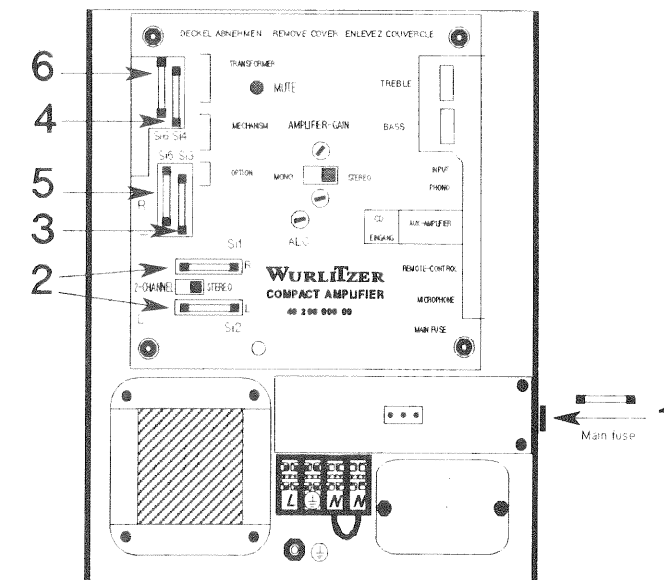

Fig. 37
01. Main fuse T 3, 15 (Fig. 37, 1) At 110/117 V-supply F6,3 A.	No illumination, phonograph completely dead.
02. Fuses Si1 and Si2: Speaker fuses (Fig. 37, 2)	No sound on L.H. channel (Si1) or R.H. channel; the reason for a blown fuse here might be a shorted power transistor.
03. Fuse Si3: 30 V negative supply.(Fig. 37, 3).	Amplifier distorting on both channels, green LED 1 not lit. Griper arm is still moving. Digital display shows a flashing 8 on the RH digit.
04. Fuse Si4: 30 V positive supply (Fig. 37, 4).	Amplifier silent. Gear motor not working. After power on disc carrier moves on and stops, relais M3 picks up, after this no further function.
05. Fuse Si5: 12 V positive supply (Fig. 37, 5).	SCC unit dead - digital display dark (except red LED M still lightning up on coin insertion).
06. Fuse Si6: 30V AC supply (Fig. 37, 6).	Disc carrier motor KM not working power supply for CD-Control unit (one digit display dark) and CD player interrupted. Break in credit circuit (LED M). After power on carrier latch solenoid picks up, digital display shows 0000 and then no further function.